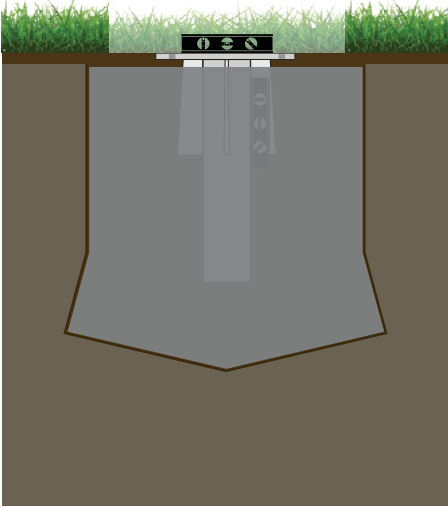

FIGURE 2
7. **(FIGURE 2)** Unpack your in-ground mount and shimmy it down to the center of the poured concrete, leaving the surface plate just resting on the concrete surface.
8. **(FIGURE 2)** Check to make sure the mounting plate is level.